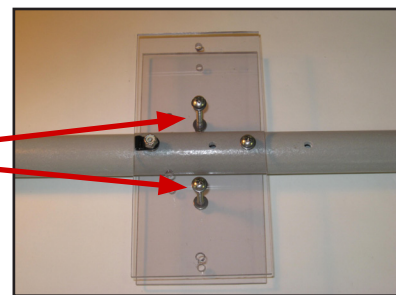

Fig. 52
- Place a No. 10 SS Flat Washer over each of two (2) 10-24 x 2.0" Machine Screws. Insert the screws passing through both the top and bottom Element Mounting Plates as shown in Fig. 52. Place a No. 10 Flat SS Washer and then a 10-24 Anti-vibration Hex Nut over each screw. Tighten the fasteners finger-tight.